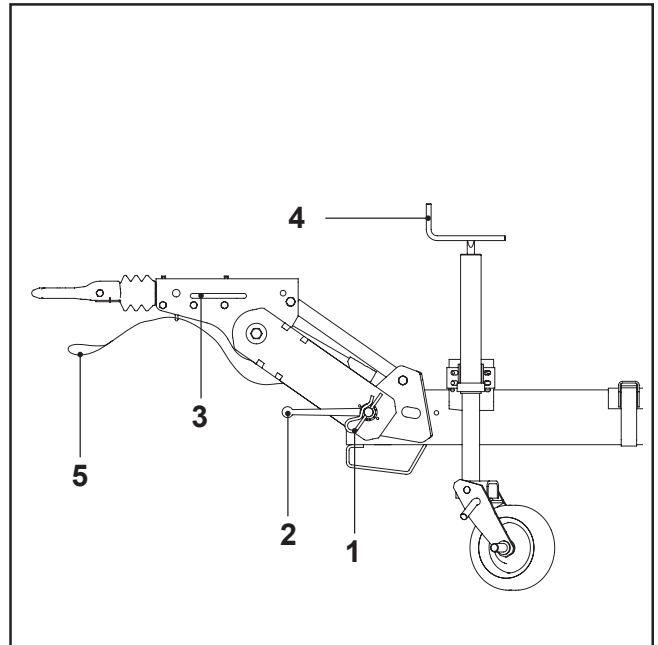

FIG.07
- Remove the safety pin (FIG. 07-REF. 1)
- Unscrew the handle (FIG. 07-REF. 2) completely.
- Pull the "stickers" off the side discs (with a strong upward pull, to the left and to the right). Use only the handle (FIG. 07-REF. 3) to adjust the height.
- Turn the lever to raise the towing wheel (FIG. 07-REF. 4).